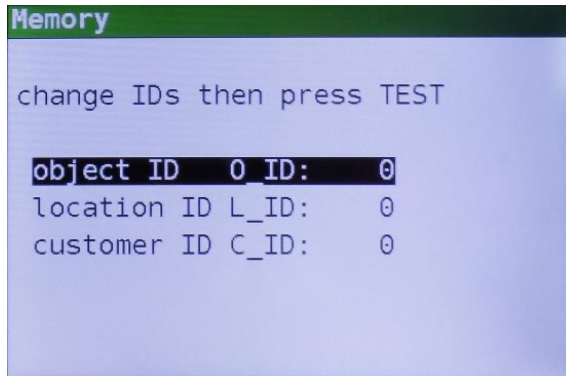

Figure 8.5: ID editor
- Step 3** The object ID, location ID and customer ID are stored as individual numbers between 0 and 65535. To change these, press the **LEFT** key. The following screen will be displayed (Figure 8.5).